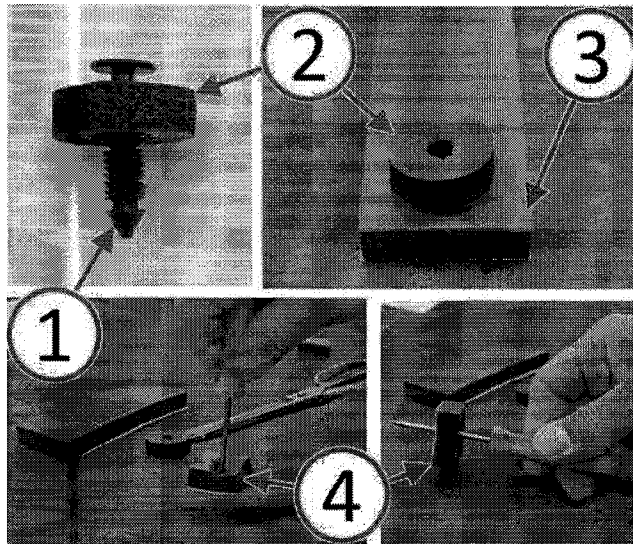

Fig. 3 Create Foam Seal
5. Obtain one piece of foam tape (3) specified in the Parts Required section of this bulletin (Fig. 3).
6. Remove the foam seal (2) from the fir tree fastener (1) (Fig. 3).
7. Place the foam seal (2) on the foam tape (3) and cut a piece of the foam tape approximately the same size as the original round foam seal 32 mm (1.25 in.) (Fig. 3).
8. Pierce a **small hole** (4) through the center of the created foam seal (Fig. 3).